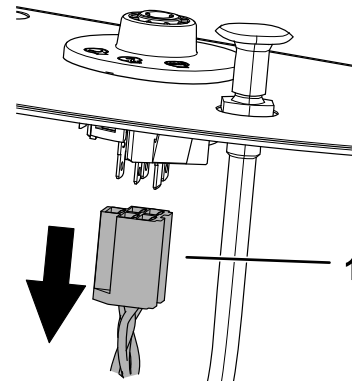

Figure 5
2. Disconnect the wire harness from the key switch (Figure 5).